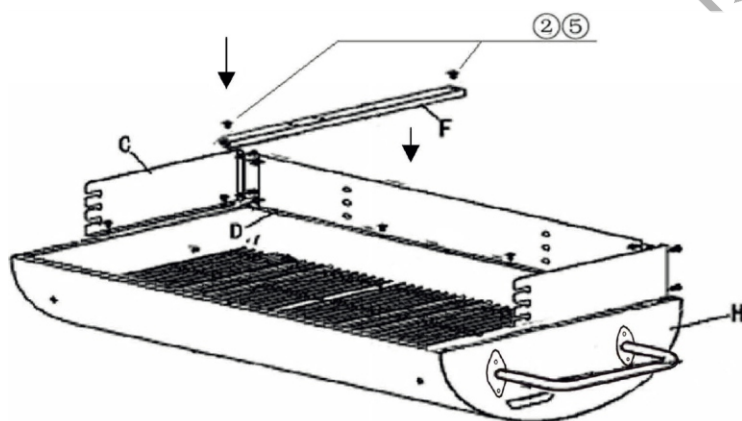

Fig. 5
7. Fix the grill support bar (F) to the middle of the fire bowl (H) using bolts (2) and nuts (5). **(Fig. 5)**